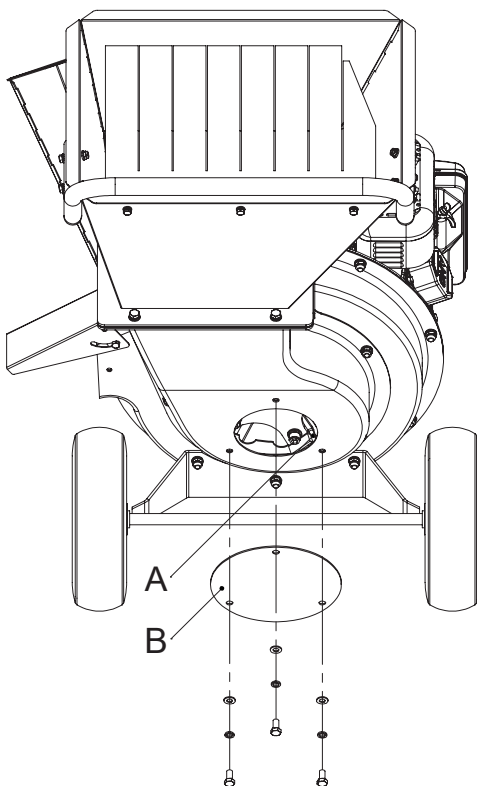

Figure 7
Inspect / Rotate Shredding Hammers (See Figure 7)
2. Remove the small circular access panel (B) from the back of the shredder housing. SEE FIGURE 7
3. Inspect the cutting edges of the Y-hammers (A).